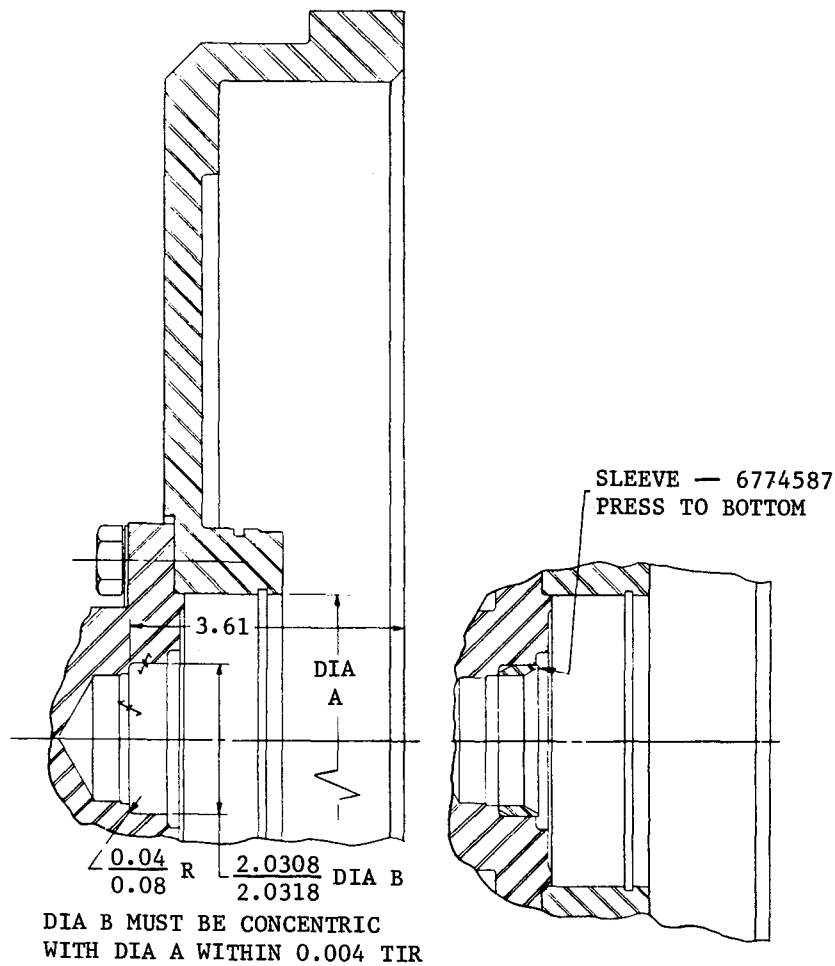

Fig. 6-1. Rework of converter drive housing—cross-section view
(1) Bore the inner diameter of hub 16 to the dimensions shown in figure 6-1.
(2) Cool sleeve 22 (A, foldout 5) in dry ice for at least 30 minutes. Then press the sleeve into the bored-out hub until it seats. The chamfer in the sleeve should be toward the rear.